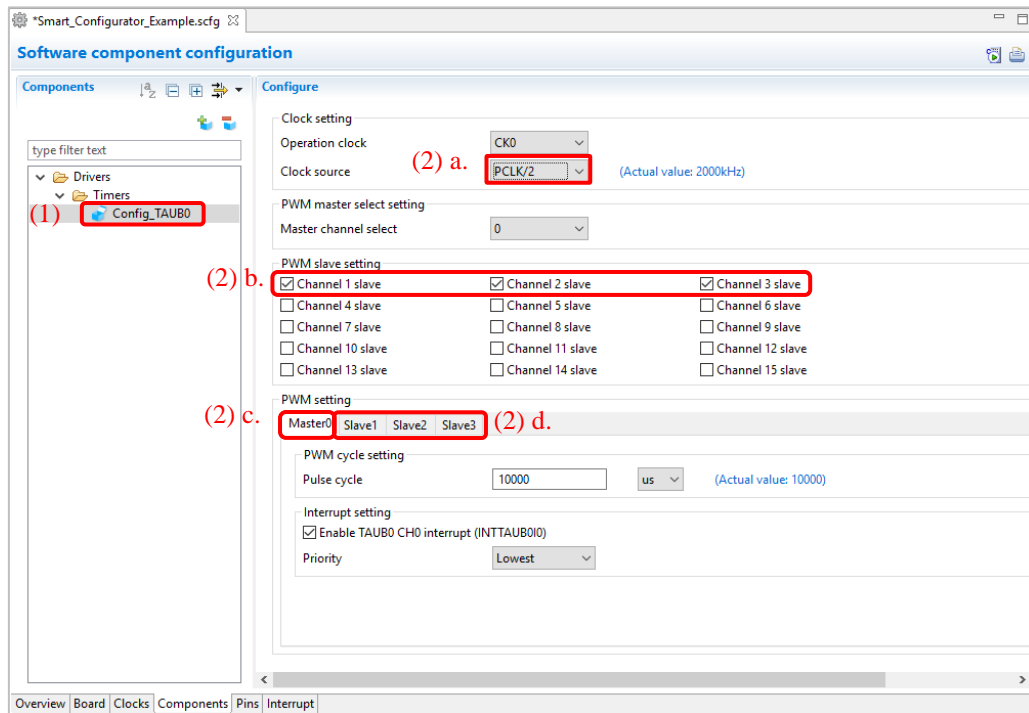

Figure 4-18 Component Configuration Settings
- (1) Click the component in the component tree (for e.g., Config\_TAUB0).
- (2) Configure the driver in the [Configure] panel to the right of the Components tree. The Figure 4-18 is an example.